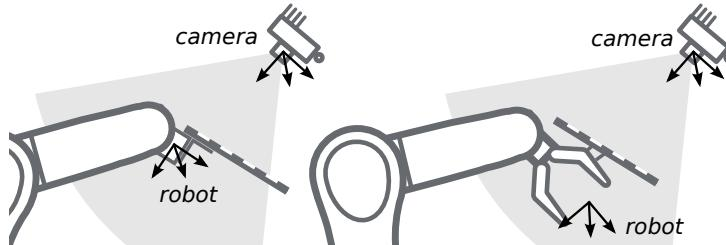

Fig. 6.19: Alternate mounting options for attaching the calibration grid to the robot
**Calibration with a statically-mounted camera** In use cases where the camera is positioned statically w.r.t. the robot, the calibration grid needs to be mounted to the robot as shown for example in Fig. 6.18 and Fig. 6.19.
**Note:** The hand-eye calibration component is completely agnostic about the exact mounting and positioning of the calibration grid w.r.t. the user-defined *robot* frame. That means, the relative positioning of the calibration grid to that frame neither needs to be known, nor it is relevant for the calibration routine, as shown in Fig. 6.19.